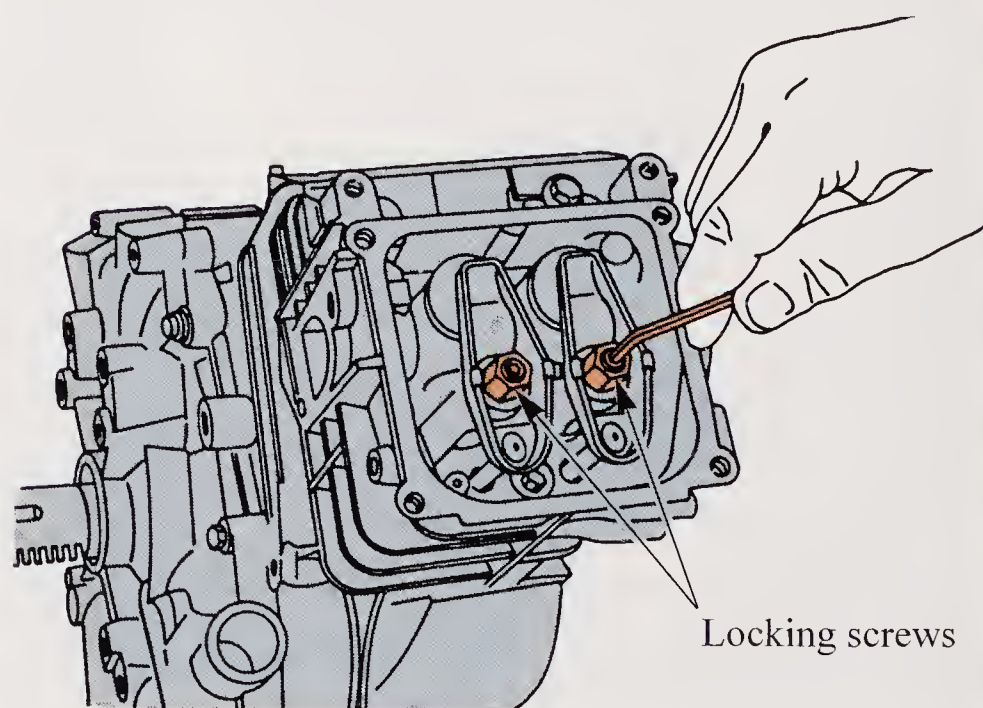

Figure 17-71. Removing locking screws and rocker arms. (Briggs & Stratton Corp.)
3. Remove the rocker arm locking screws and nuts as shown in **Figure 17-71**. Remove the rocker arms. Some engines have rocker arms